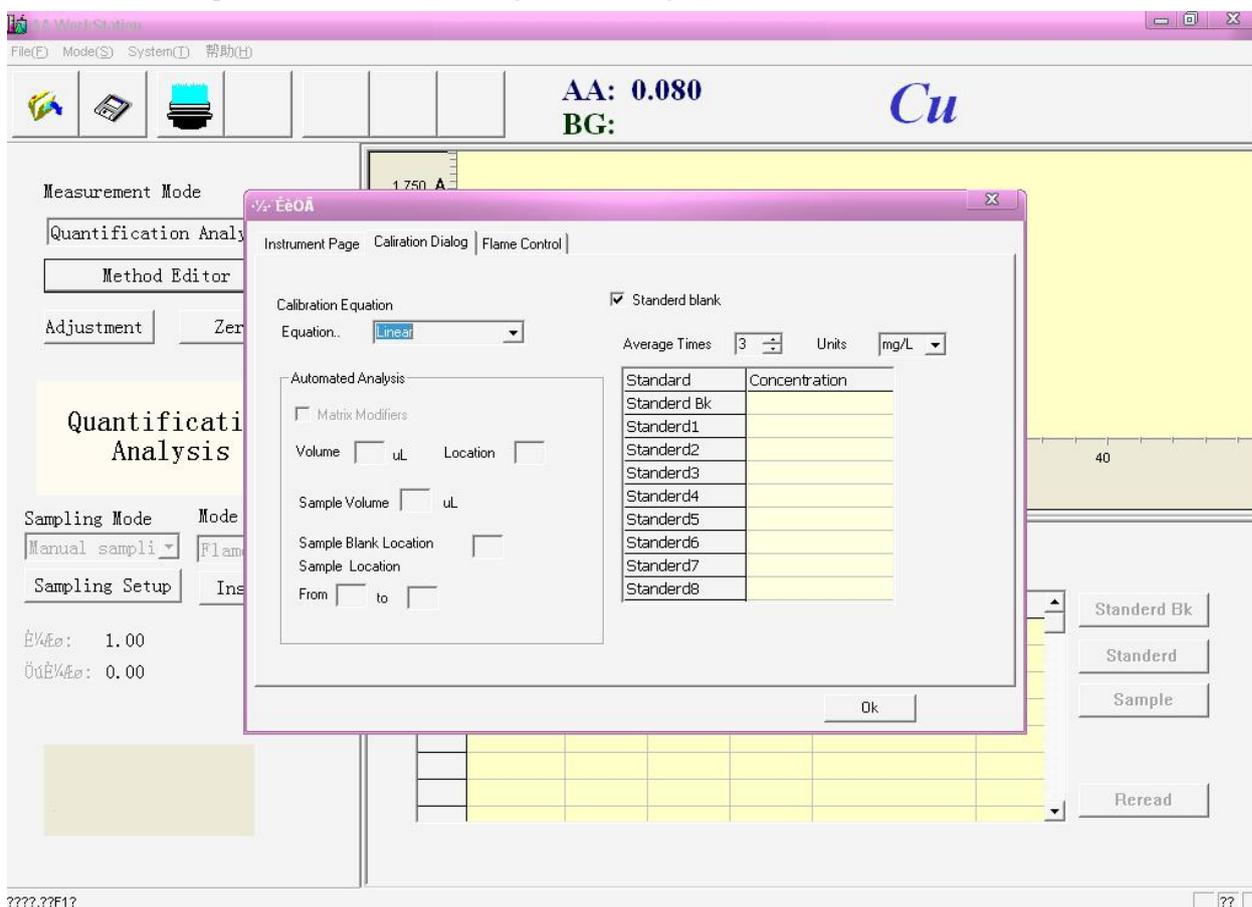

Figure 5-21
5. Press **【OK】** ,open the “Calibration Dialog”window.figure 5-21